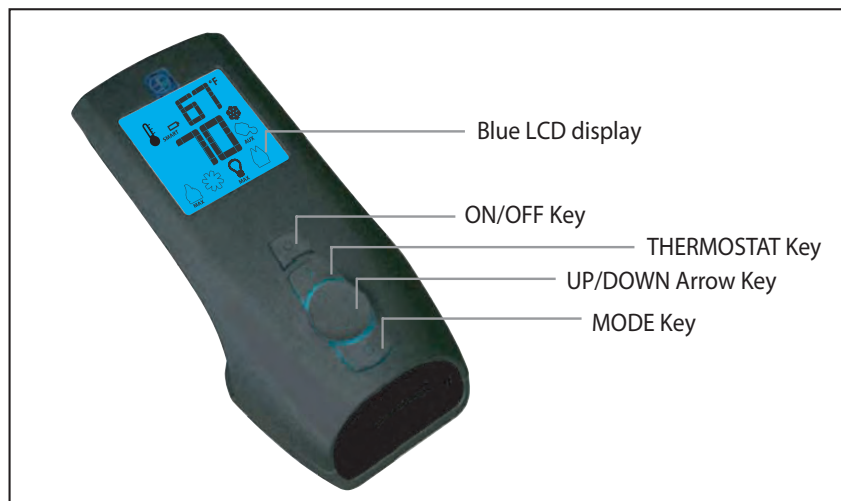
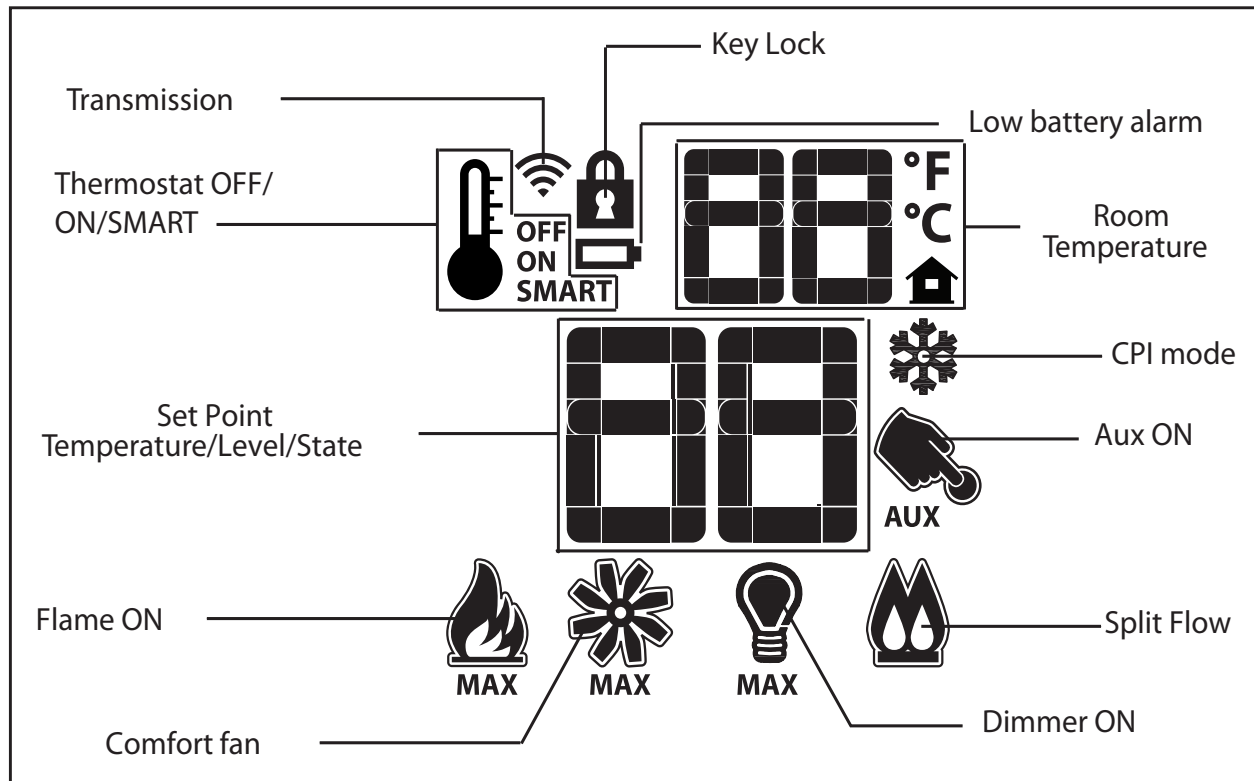
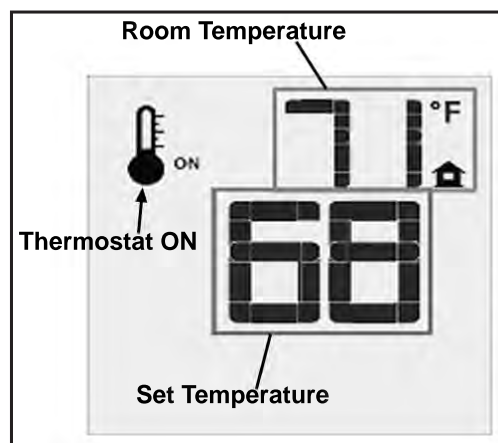
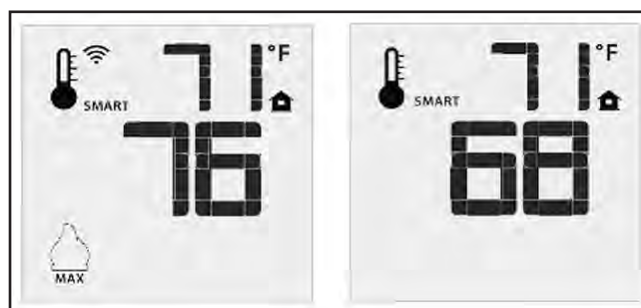

Figure 4: Proflame 2 Transmitter.
Figure 5: Proflame 2 Transmitter LCD Screen.
Figure 9: Remote Control Displays Set Temperature.
Figure 10: Remote Control's Smart Flame Function.
The Proflame 2 Transmitter is a black remote control with a blue backlit lcd display. It uses a streamline design with a simple button layout and informative lcd readout (Figure 5). The Transmitter is powered by three (3) AAA type batteries. A Mode Key is provided to Index between the features and a Thermostat Key is used to turn on/off or index through Thermostat functions (Figure 4 & 5)
Press the ON/OFF Key on the Transmitter. The Transmitter LCD display will only show the room temperature and Icon (see Figure 9). A single “beep” from the IFC confirms reception of the command and both the pilot light (if the unit is not set to continuous pilot) and main burner will turn off.
The Remote Control can operate as a room thermostat. The thermostat can be set to a desired temperature to control the comfort level in a room. To activate this function, press the Thermostat Key (see Figure 4). The LCD display on the Transmitter will change to show that the room thermostat is “ON” and the set temperature is now displayed (see Figure 9). To adjust the set temperature, press the Up or Down Arrow Keys until the desired set temperature is displayed on the LCD screen of the Transmitter.
The Smart Thermostat function adjusts the flame height in accordance to the difference between the set point temperature and the actual room temperatures. As the room temperature gets closer to the set point the Smart Function will modulate the flame down. To activate this function, press the Thermostat Key (Figure 4) until the word “SMART” appears to the right of the temperature bulb graphic (Figure 10). To adjust the set temperature, press the Up or Down Arrow Keys until the desired set temperature is displayed on the LCD screen of the Transmitter.
2. Remove the (14) T-20 bolts retaining the access panels as shown in Figure 10.